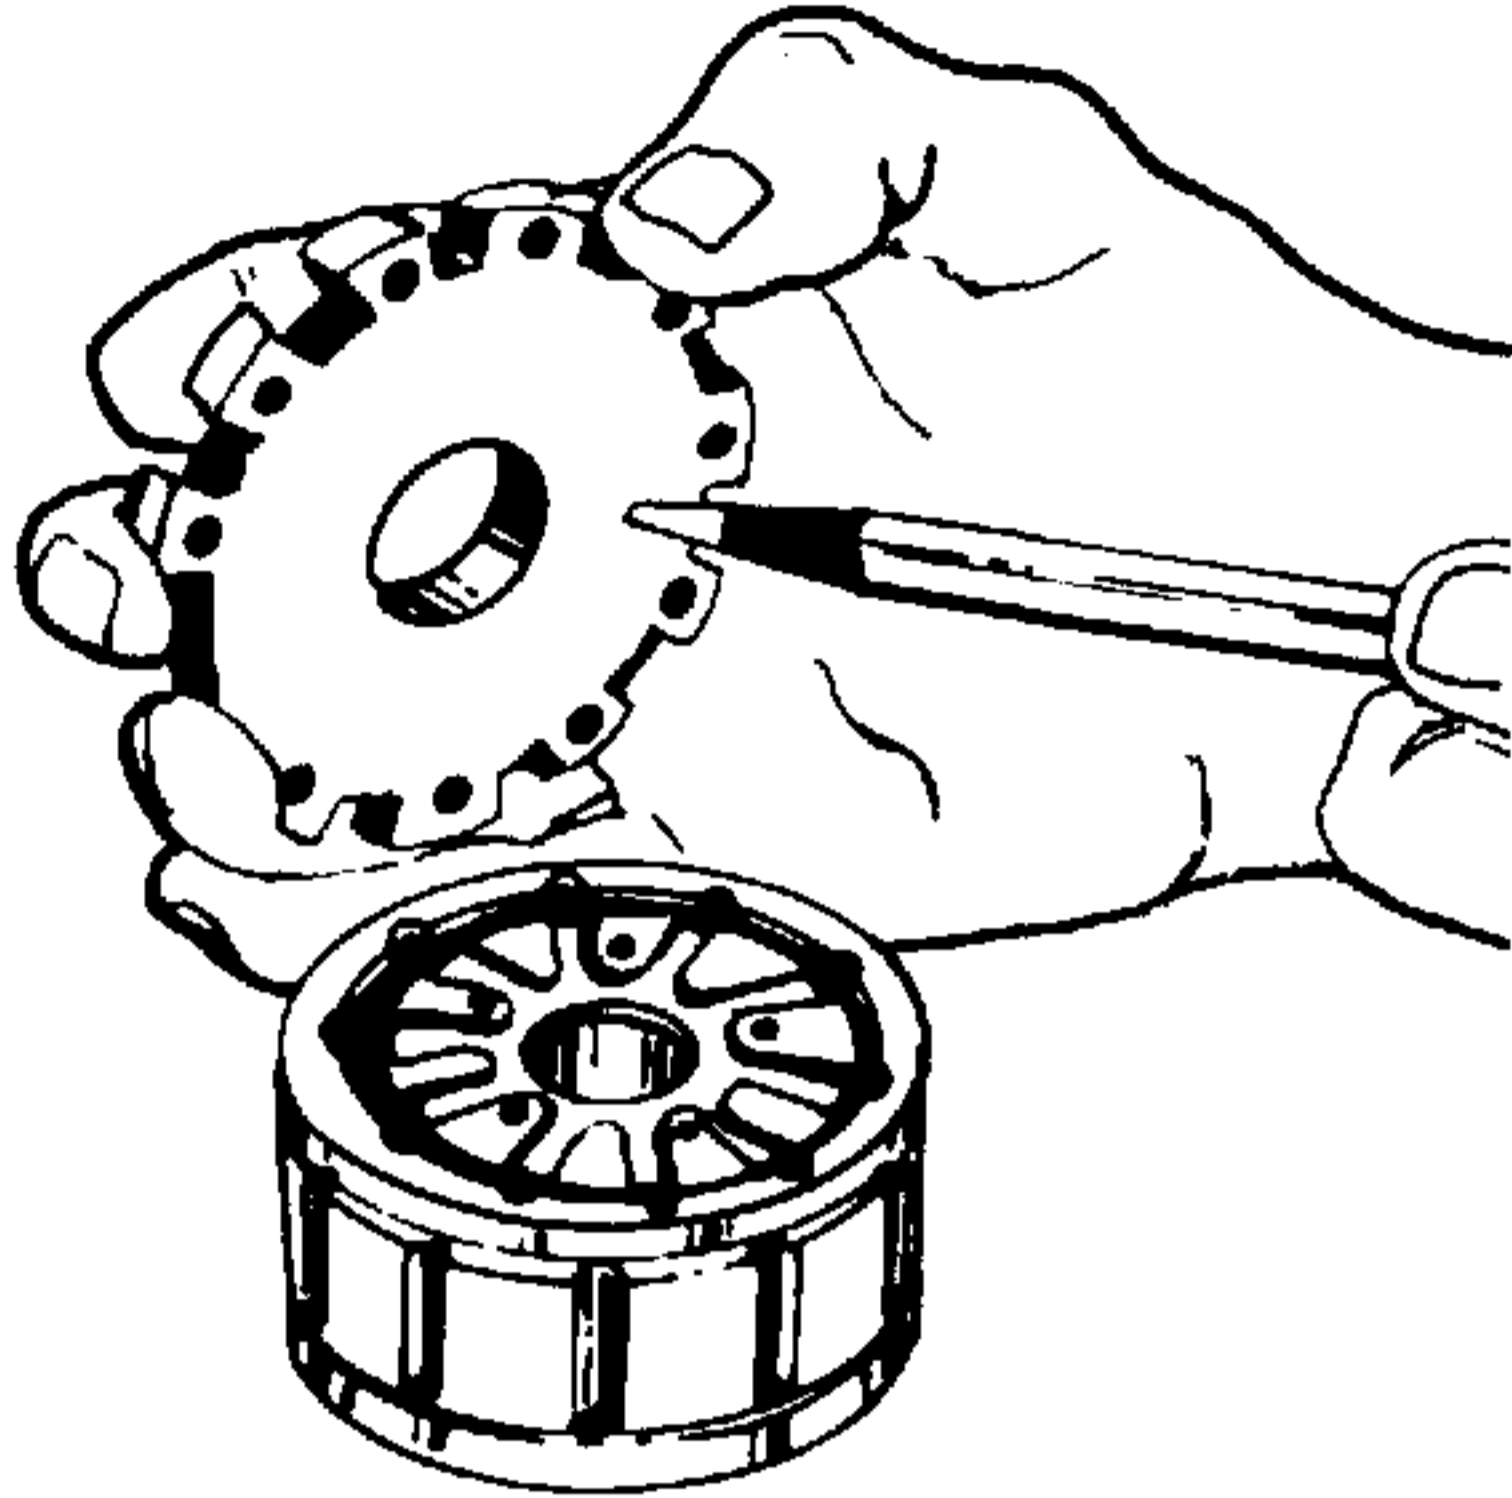

Figure 4-25. Inspecting Commutator Cover.
28. Inspect the ground surfaces of the commutator cover (18). You should notice a normal polished pattern due to the rotation of the commutator (19). If the cover has nicks, burrs or scoring, it must be replaced. See Figure 4-25.